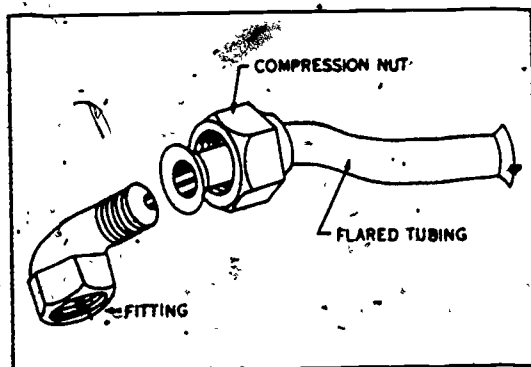

Figure 3-6. Flared tubing, compression nut, and fitting.
**Flaring copper tubing.** One easy and satisfactory method of joining copper tubing is to flare the ends of the tubing and press the flared end against the tapered surface on the fitting. Then screw the compression nut up tight over the end of the fitting, as shown in figure 3-6. An advantage of this type of connection is that it is easily disassembled when it becomes necessary to